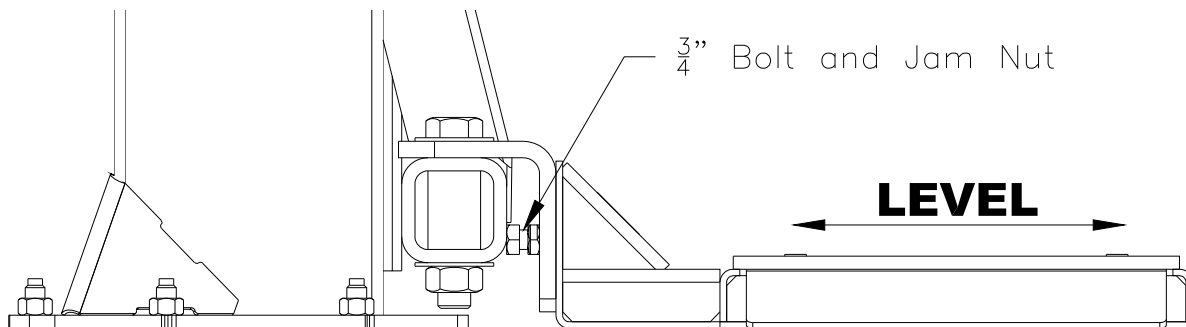

Figure 4
3. Adjust $\frac{3}{4}$ " Bolt and Jam Nut so Pad Adapter is level. See Figure 4.